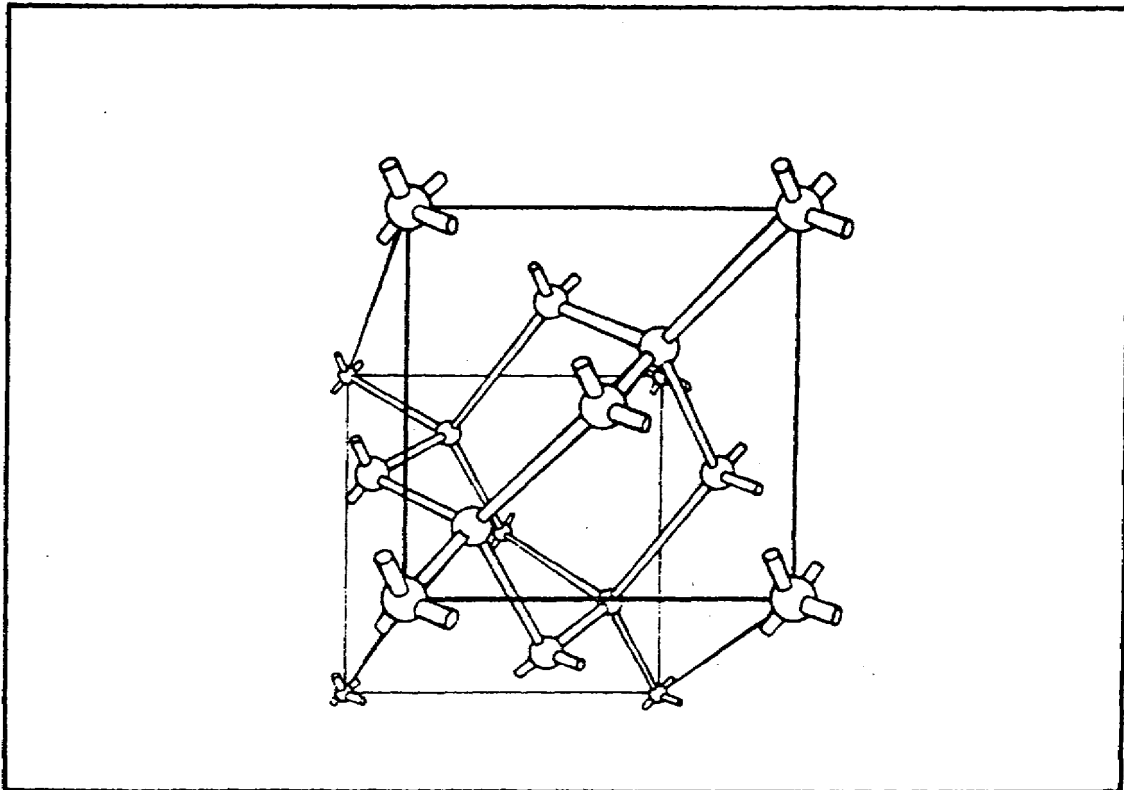

FIGURE 73. TYPICAL CRYSTAL STRUCTURE.
(2) *Covalent Bonding.* Covalent bonding is the sharing of valence electrons between two or more atom . It is this bonding that holds the atoms together in an orderly structure called a CRYSTAL, (figure 73).